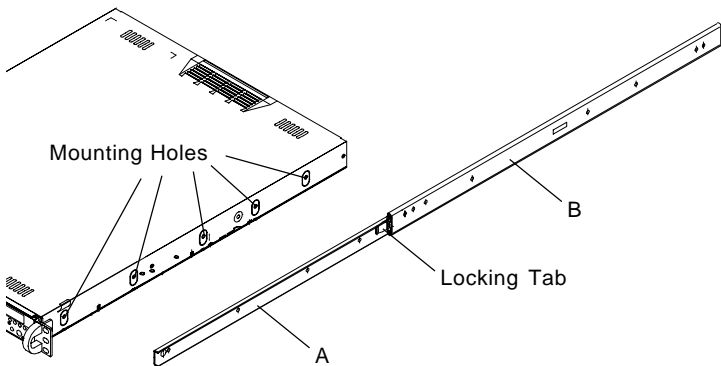

Figure 2-1. Identifying the Sections of the Rack Rails
You should have received two rack rail assemblies with the SuperServer 6011L. Each of these assemblies consist of two sections: an inner fixed chassis rail that secures to the 6011L (A) and an outer fixed rack rail that secures directly to the rack itself (B). A sliding rail guide sandwiched between the two should remain attached to the fixed rack rail. (See Figure 2-1.) The A and B rails must be detached from each other to install.